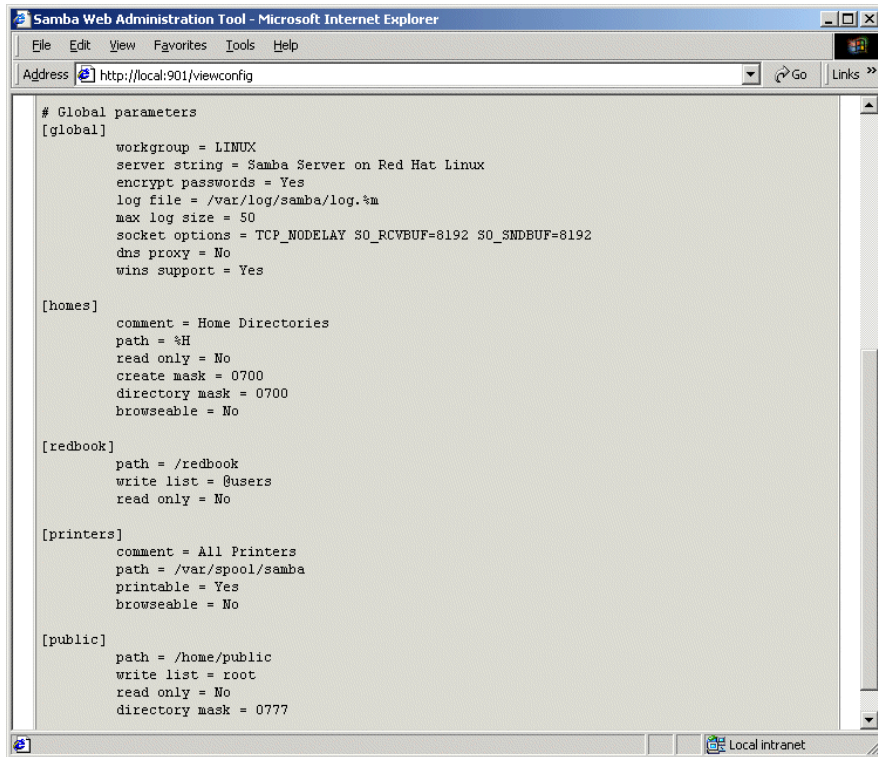

Figure 4-10 Viewing configuration file
7. Click the **View** icon to display the configuration file to verify that all the settings were recorded. The page will look similar to Figure 4-10 on page 71.
Clicking the **View** icon will display a page with contents of the configuration file, without comments. The page will look similar to Figure 4-10 on page 71.